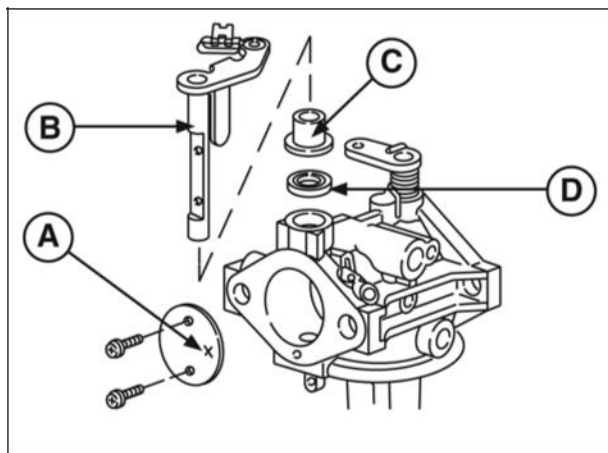

Figure 12
12. Mark throttle plate (A, Figure 12) before removing so that it may be reinstalled in the same position. Sides of throttle plate are beveled.
13. Remove two screws, throttle plate, throttle shaft (B) with collar (C) and seal (D). Discard seal.